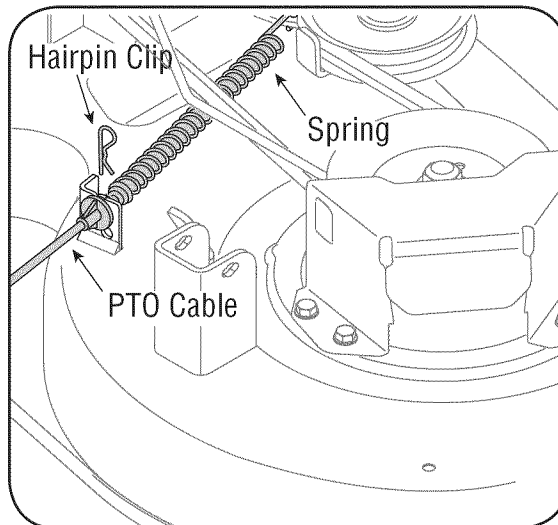

Figure 22
3. Remove the hairpin clip that secures the PTO cable to the rear of the cutting deck. See Figure 22. Remove the PTO cable and accompanying spring from the cutting deck.